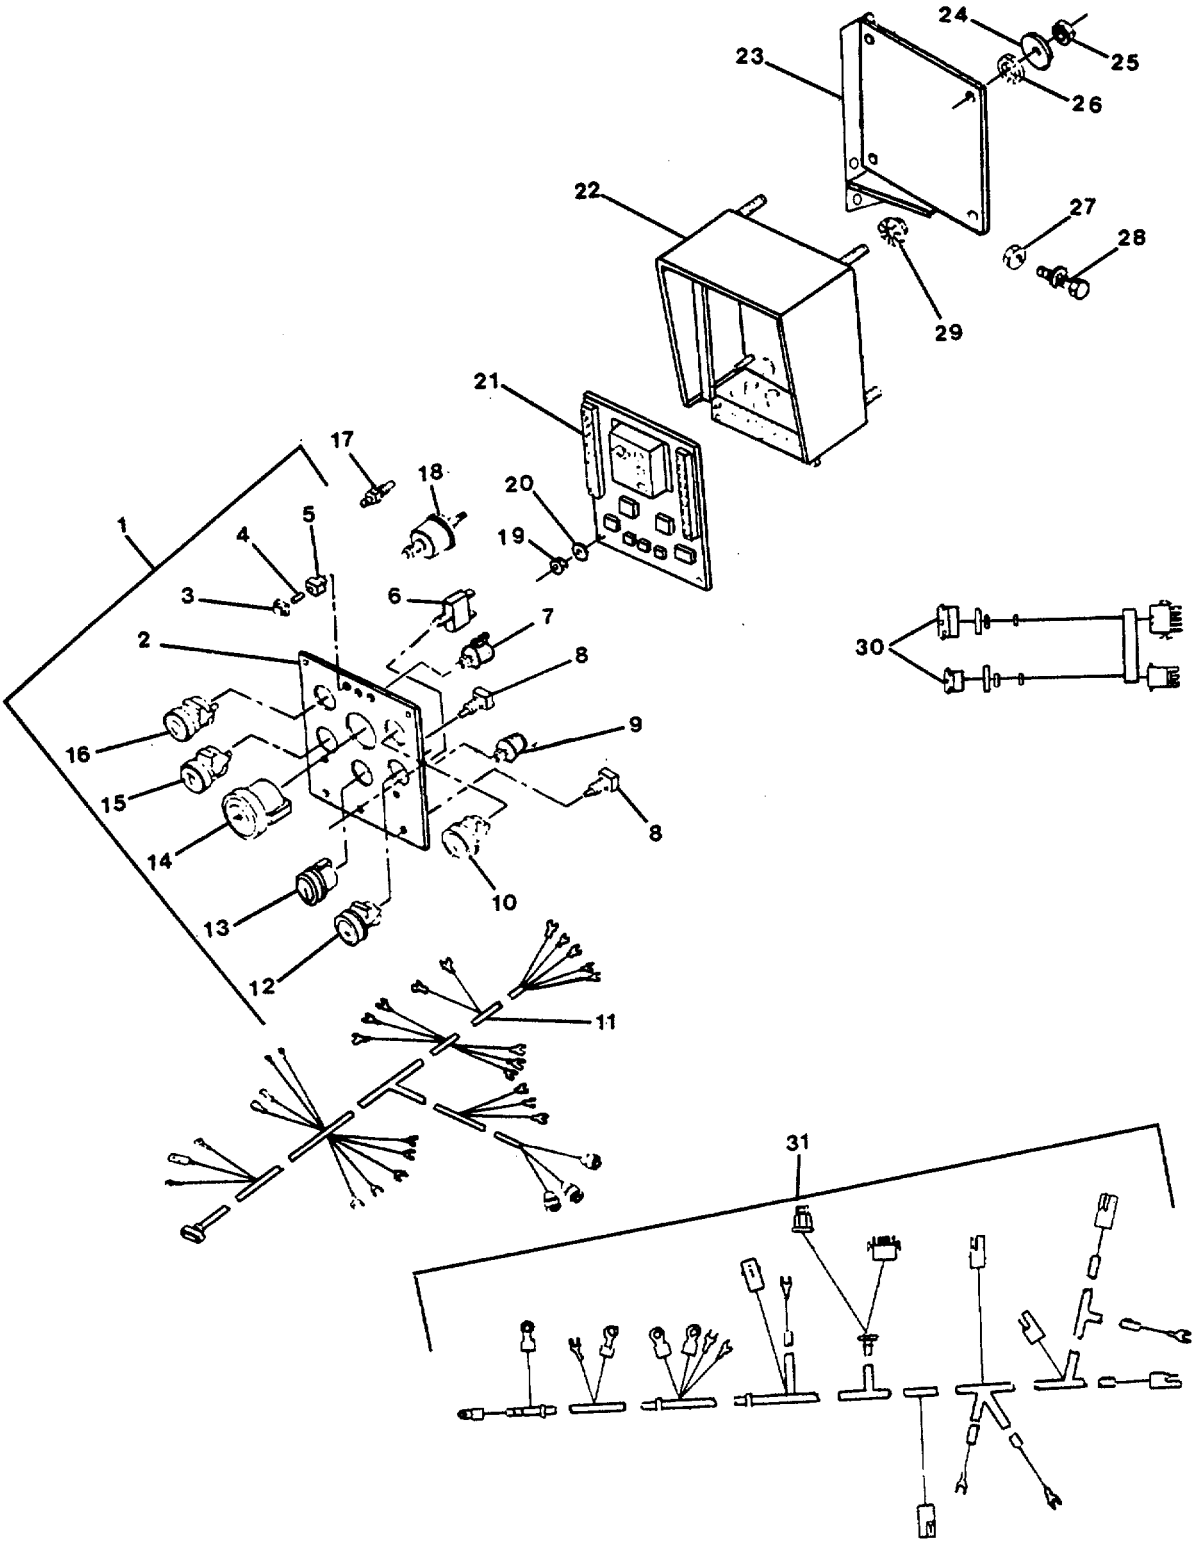
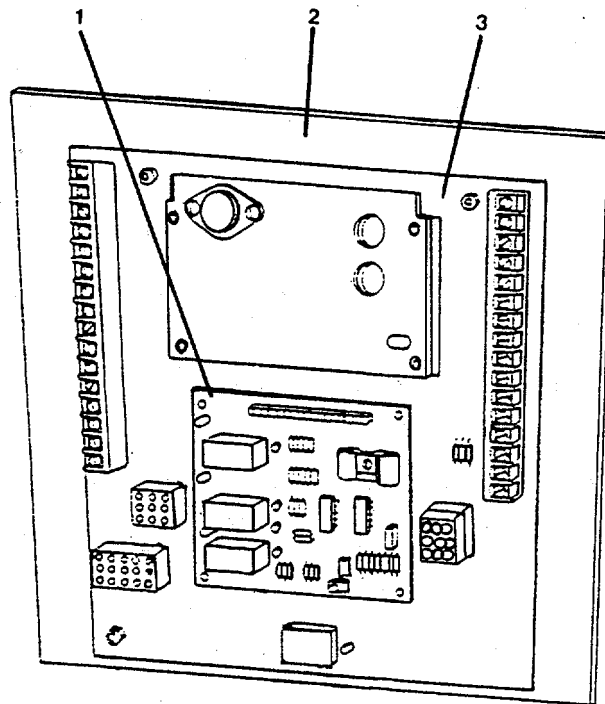

FIGURE 2-6. Instrument Panel Assembly.
FIGURE 2-7. Terminal Board.
- a. Install the starter (1) and bracket (8) with the capscrews (9).
- c. Connect, and secure the electrical connections to the starter assembly (1). Remove tags.
- d. Install the magnetic switch with isolators (7), flat washers (6, 4), lockwashers (3) and nuts (2). Connect the electrical leads to the magnetic switch (5). Remove tags.
**2-26. Replace/Repair Instrument Panel Assembly. (Figure 2-6)**
- d. Remove the four hexagon nuts (25), four flat washers (24), and four resilient mounts (26) from the instrument bracket (23) and remove the cabinet (22) and four resilient mounts (29) from the bracket (23).
- e. Remove four assembled washer screws (28) and four hexagon nuts (27) to remove the bracket (23) if required.
- (1) Tag and remove the electrical wiring from the defective gauge, switch, circuit breaker, meter, resistor, or light assembly.
- (2) Remove the mounting hardware that holds the gauge, switch, circuit breaker, meter, resistor, or light to the panel (2). Remove the defective part and discard.
- (3) Position the new part in the panel (2) and install the mounting hardware that holds it to the panel (2).
- (4) Connect the electrical wiring to the appropriate gauge, switch, circuit breaker, meter, resistor, or light. Remove tags. Tighten the connections.
- b. Repair Terminal Board. Repair to the terminal board (21, Figure 2-6) is replacement of overspeed switch (1, Figure 2-7) and governor control (2, Figure 2-7) or replacement of the terminal board (3).
- (1) Replace overspeed switch (1, Figure 2-7) as follows:
- (b) Remove the four machine screws and four lockwashers securing the overspeed switch (1) to the terminal board (3).
- (c) Remove the overspeed switch (1) from the terminal board (3).
- (d) Position the new overspeed switch (1) on the terminal board (3) and install four screws and lockwashers.
- (2) Replace the governor control (2, Figure 2-7) as follows:
- (a) Disconnect and tag all wiring connections to the governor control (2).
- (b) Remove the four machine screws and four lockwashers securing the governor control (2) to the terminal board (3).
- (c) Remove the governor control (2) from the terminal board (3).
- (d) Position the new governor control (2) on the terminal board (3) and install four screws and lockwashers.
- (e) Connect all wiring connections on the governor control (2). Remove tags.
- (3) Replace the terminal board (21, Figure 2-6) as follows:
- (c) Remove four self-locking nuts (19) and flat washers (20) securing the terminal board to the instrument cabinet (22) and remove the terminalboard.
- (d) Position the new terminal board (21, Figure 2-6) in the instrument cabinet (22) and install self-locking nuts (19) and flat washers (20). Secure self-locking nuts (19).
- (e) Plug in wiring harnesses to their proper locations on the terminal board (21). Connect all wiring and secure. Remove tags.